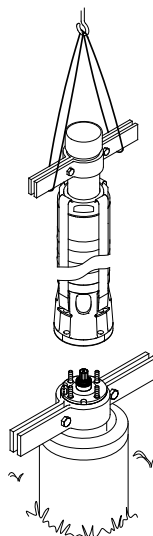

Fig. 16 Lifting the pump into position
3. Lift the pump part by means of pipe clamps fitted to the riser pipe. See fig. 16.